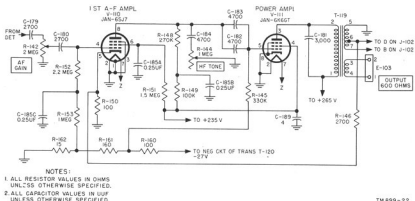

Figure 22. First audio and power amplifier stages, simplified schematic diagram.
47. First A-F Stage V-110 and Power Amplifier Stage V-111 (fig. 22)